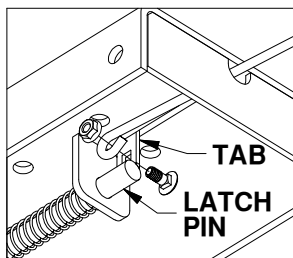

Figure E1:
1. **Insert the handle.** Install the latch pin release handle by inserting it through the slot in the end of the center section on the driver side of the truck. Align the handle eyelet with the square hole in the latch pin so the handle is in line with the latch as shown in Figure E1.